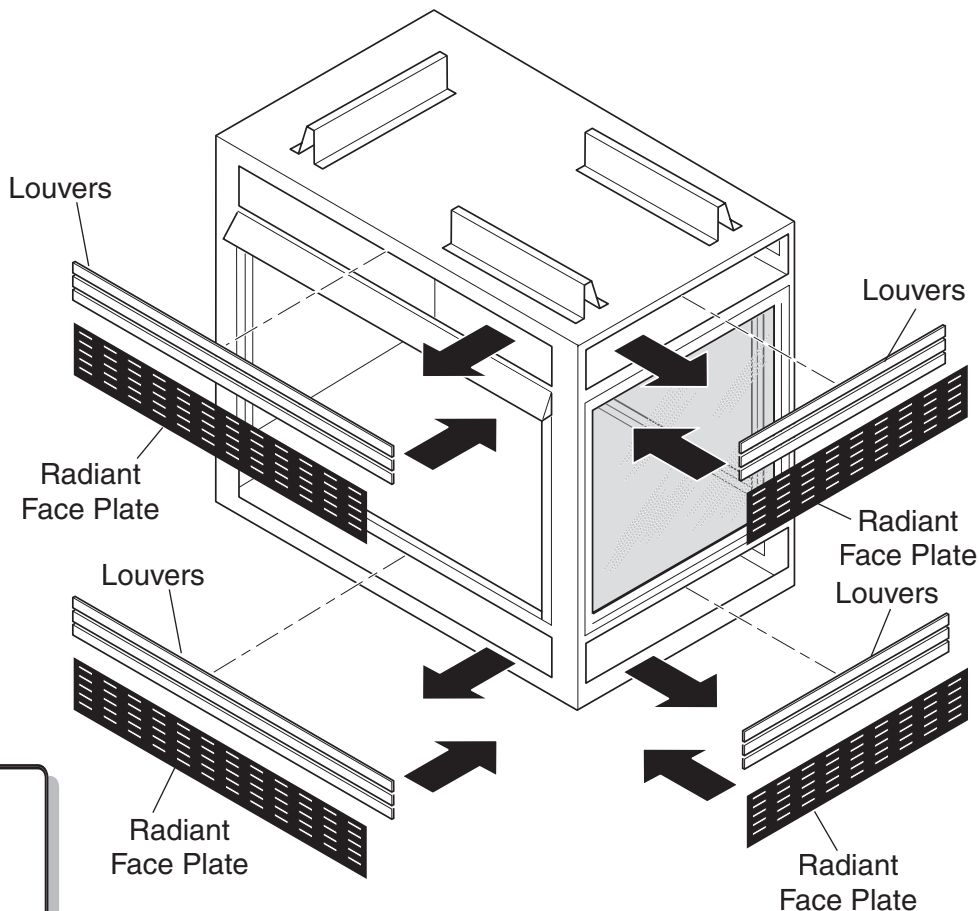

Figure 23 - Installing Radiant Face Plates
2. Snap off the three upper louvers and the three lower louvers as shown in Figure 23.
3. Snap on the upper radiant face plate and the lower radiant face plate as shown in Figure 23.